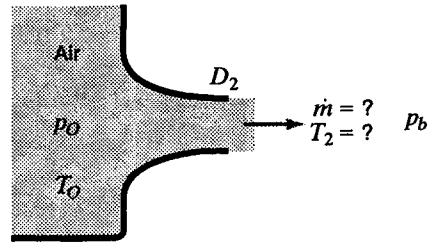

Figure P13.5
13.5 Air flows at 150°F from a large tank through a 1.5-in-diameter converging nozzle (Fig. P13.5). Within the tank the pressure is 85 psia. Calculate the flow rate for back pressures of 10, 30, 50, and 70 psia. Assume isentropic conditions. Plot  $\dot{m}$  as a function of  $p_b$ . Assume that the temperature within the tank is 150°F in all cases. Compute also the temperature at the nozzle outlet for each condition.